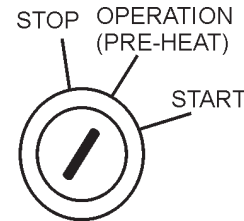

Figure 38. Ignition Switch (Operation/PreHeat Position)
2. Preheat the engine glow plugs by turning the ignition key (Figure 38) to the "OPERATION" position.
3. When the preheat lamp illuminates (Figure 39), turn the ignition key to the "start" position. Once the engine starts, release the ignition key and allow it to return to the "operation" position (Figure 38).